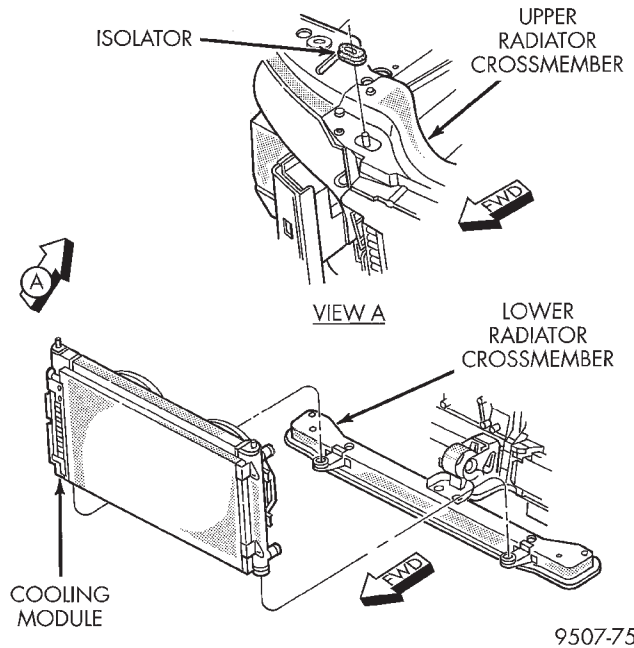

Fig. 40 Cooling Module Mounting
(3) Drain cooling system. Refer to Cooling System Draining in this section.
(4) Remove upper radiator crossmember (Fig. 40). Refer to Group 23, Body for procedure.